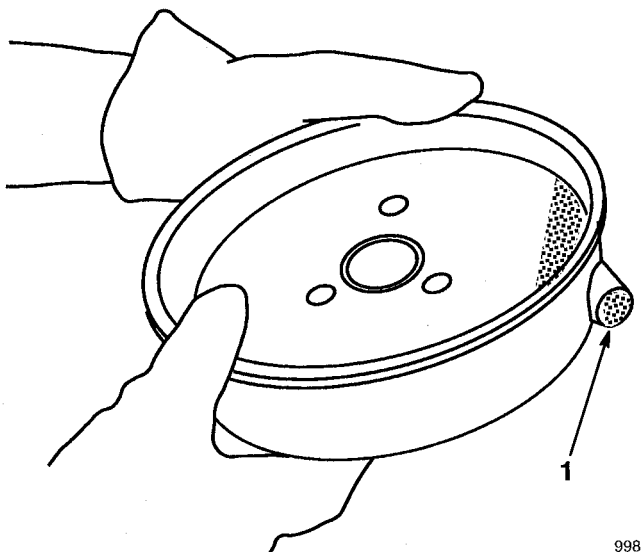

Figure 39
10. Clean carbon deposits from muffler and tube with wire brush and wood dowel (Fig. 39). Wipe muffler clean with paper towel or rag.